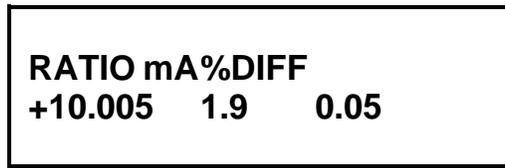

Figure 24.0 Test Results Status Display
- a. **Description:** Displays the transformer winding polarity, turns-ratio, excitation current (in milliamps), and turns-ratio percentage error after completion of the transformer test. A typical turns-ratio test result screen is shown in Figure 24.0. The display result is explained below:
- b. **Origin:** The LCD displays “Test Results Status Display” (Figure 24.0) after the “Test In Progress Status Display” (Figure 23.0).
- b. **Origin:** The “Print Test Results Menu” is displayed after operator presses any key or pushes down on the Control Knob from the “Test Result Status Display” (Figure 24.0).